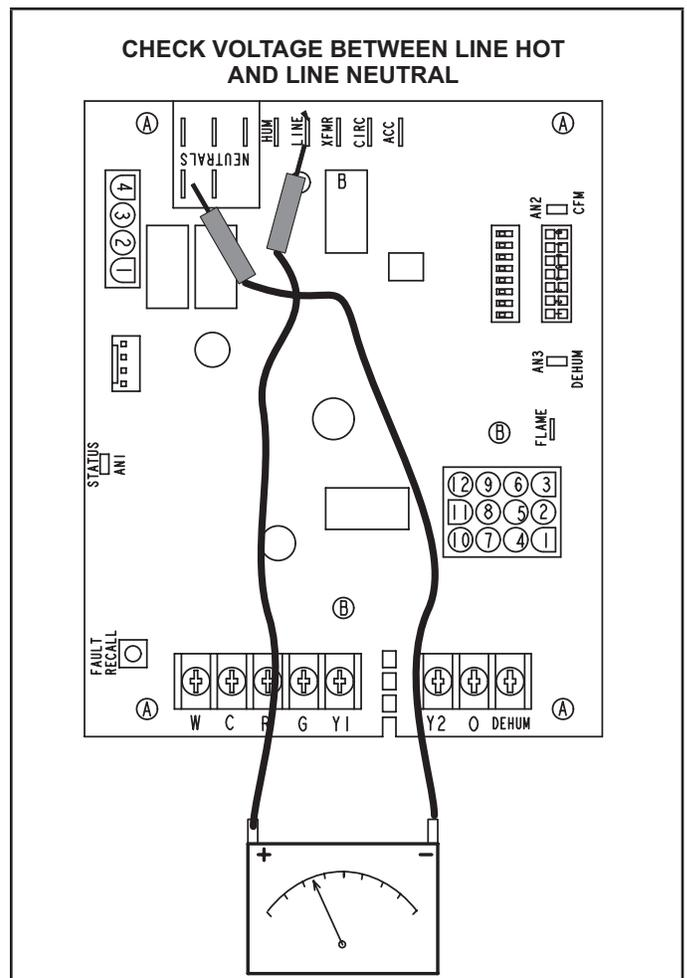

FIGURE 20
- 2 - In addition, measure the AC voltage from Line Hot to Line Neutral (spade terminals) on the integrated control. See FIGURE 20. This voltage should be in the range of 97 to 132 Vac.